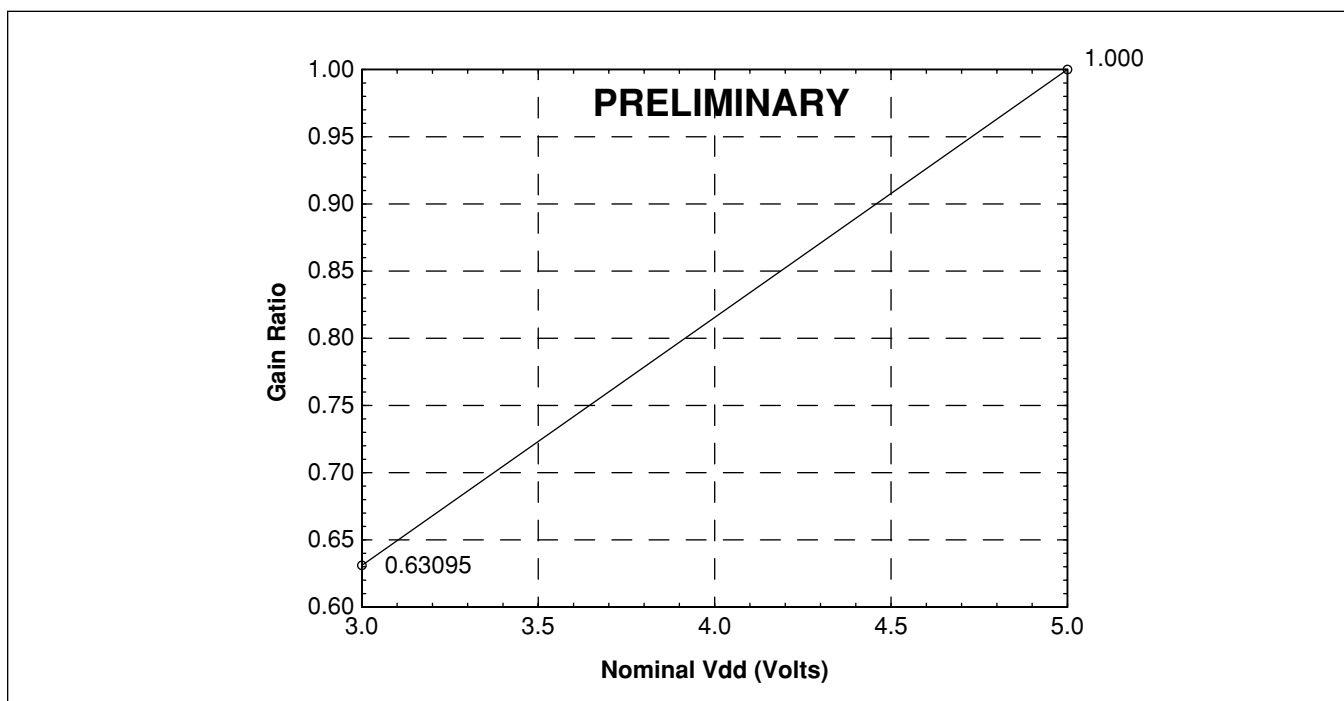

Figure 9 - GS1 and GS2 Gain Ratios as a Function of Nominal Vdd
The MT88E46 is designed to operate from a fixed voltage power supply between 3 and 5V nominal. A $\pm 10\%$ variation from the nominal voltage is allowed. Its FSK and CAS reject levels are proportional to V_{dd} . When operated at V_{dd} equals $3V \pm 10\%$, to keep the FSK and CAS reject levels as at $5V \pm 10\%$, and for optimal speech immunity, the GS1 and GS2 op-amp gains should be reduced from those of 5V. Gains for nominal V_{dd} 's between 3 and 5V can be obtained by interpolation between the 3V and 5V values shown in Figure 9.
- For the desired nominal Vdd, use Figure 9 to calculate approximate Av.